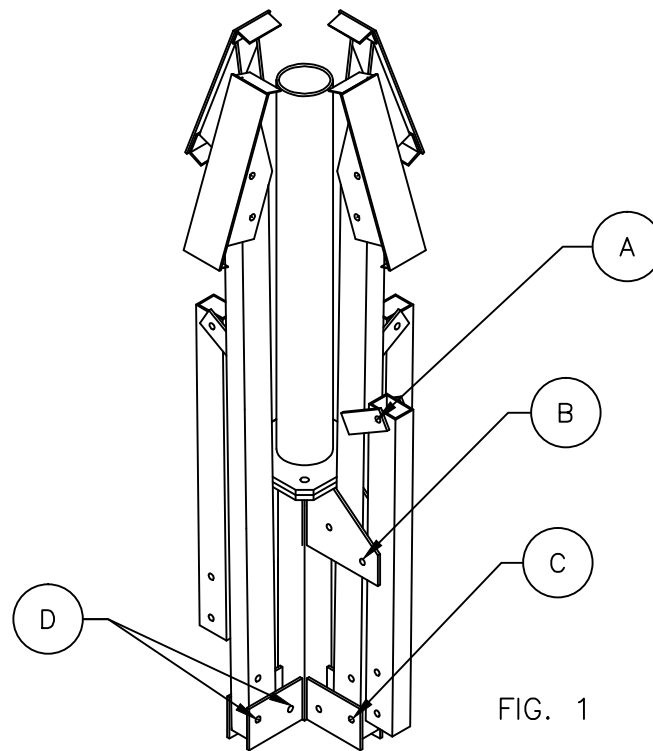

FIG. 1
THE VL-10 MOUNTING SYSTEM IS SHIPPED ASSEMBLED AS SHOWN IN FIG.1
- 1.) THE FOLLOWING INSTRUCTIONS WILL BE HELPFUL IF THE UNIT WAS NOT RECEIVED PACKAGED AS SHOWN IN FIGURE 1.
- 3.) LOCATE A 56" ARM & WITH THE TABS POINTING DOWNWARD & AWAY FROM THE BASE. ATTACH THE ARM TO THE UPPER FINNS ON THE BASE WITH (2) 1/2"x2-3/4" BOLTS, NUTS & LOCKWASHERS (NOTE: DO NOT TIGHTEN HARDWARE UNTIL MOUNT ASSEMBLY IS COMPLETE).
- 4.) ATTACH THE 30.5" BRACE TUBE TO THE LOWER FINNS ON THE BASE USING (2) 1/2"x2-3/4" BOLTS, NUTS & LOCKWASHERS. ATTACH THE OTHER END OF THE BRACE TO THE TABS ON THE 56" LONG ARM TUBE USING (1)1/2"x2-3/4" BOLT, NUT & LOCKWASHER. (NOTE THE SINGLE HOLE ON THE ON THE BRACE SHOULD BE TOWARDS THE TOP OF THE TUBE).
- 5.) ATTACH A SHOE TO THE END OF EACH OF THE 56" LONG ARMS USING (2) 1/2"x2-3/4" BOLTS, NUTS & LOCKWASHERS PER SHOE.